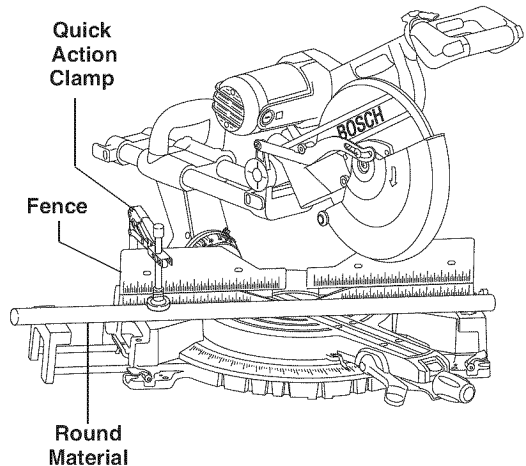

Figure 38. Round Material
**WARNING** For round material such as dowel rods or tubing, always use a clamp or a fixture designed to clamp the workpiece firmly against the fence and table. Rods have a tendency to roll while being cut, causing the blade to “bite” and pull the work with your hand into the blade (Figure 38).